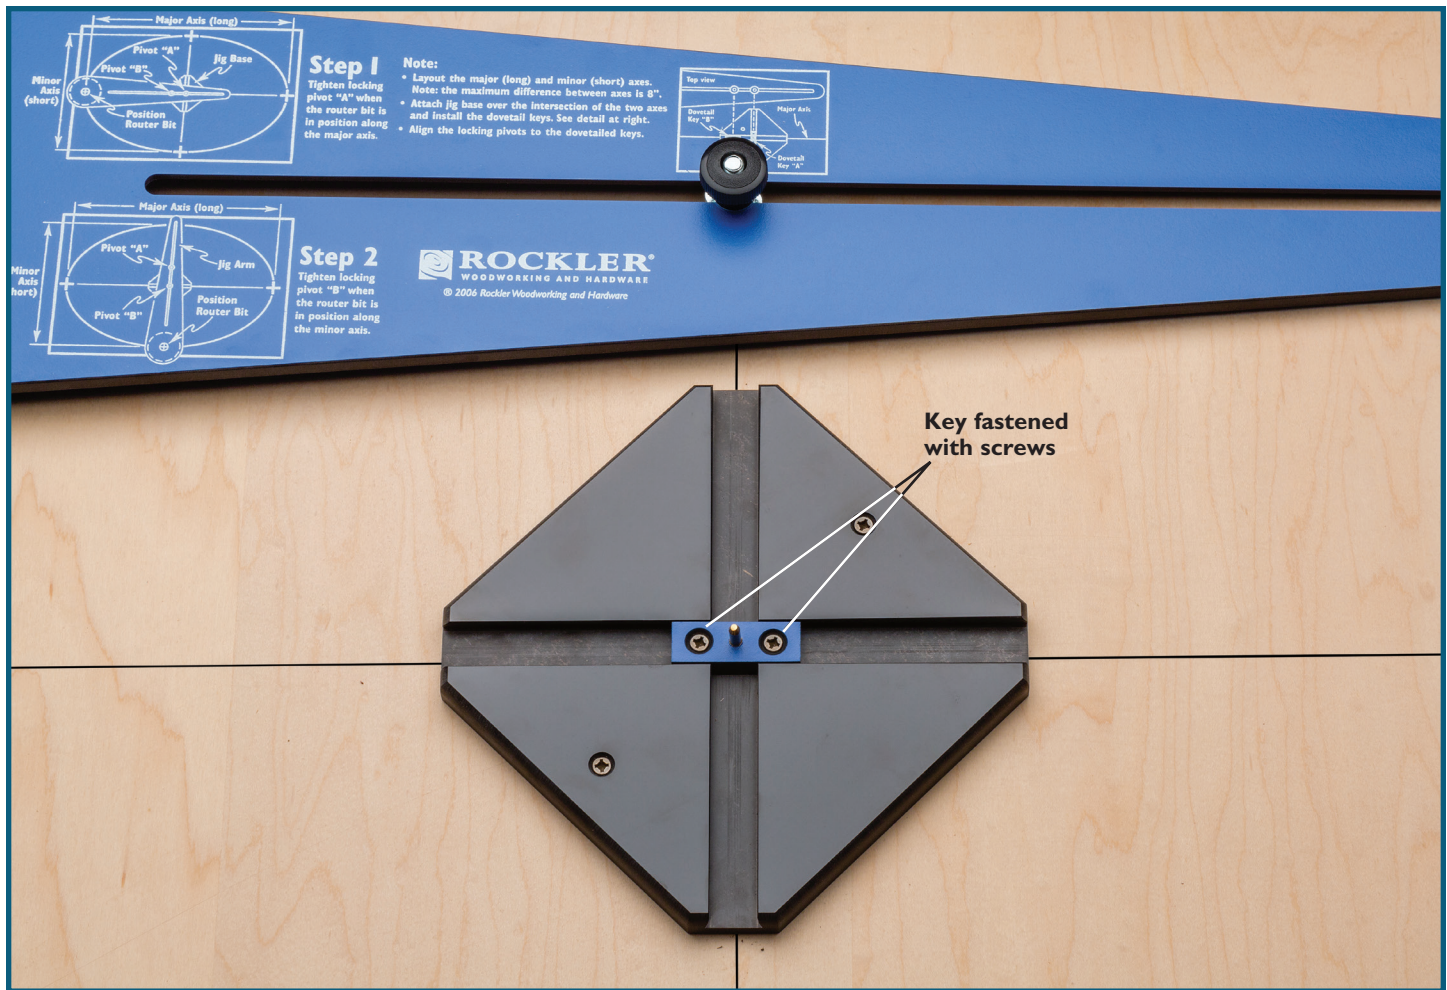

Fig. 6
2. Center the Jig Base (2) on the intersection of the axes and secure it to the workpiece with screws.
3. Remove one of the Locking Pivots from the Jig Arm (1) and one of the dovetail keys (3) from the Jig Base (2).
4. Make sure the remaining Dovetail Key (3) is in the channel that has the two holes near the center. Align the holes in the Dovetail Key (3) with the holes in the Jig Base (2) and secure with two #6 wood screws (not included). **Fig. 6.**
5. Loosen the Locking Pivot on the Jig Arm (1) and position it so it mounts on the pin in the Dovetailed Key (3).
6. Adjust the Jig Arm (1) in or out until the bit is positioned as desired to make the cut. Tighten the Locking Pivot.
7. With the router off, rotate the Jig Arm (1) through the full range of cut. You want to ensure that the Jig Arm will move smoothly, as well as verify the circle pattern and proper placement of any spacers/supports. Then make the cut.